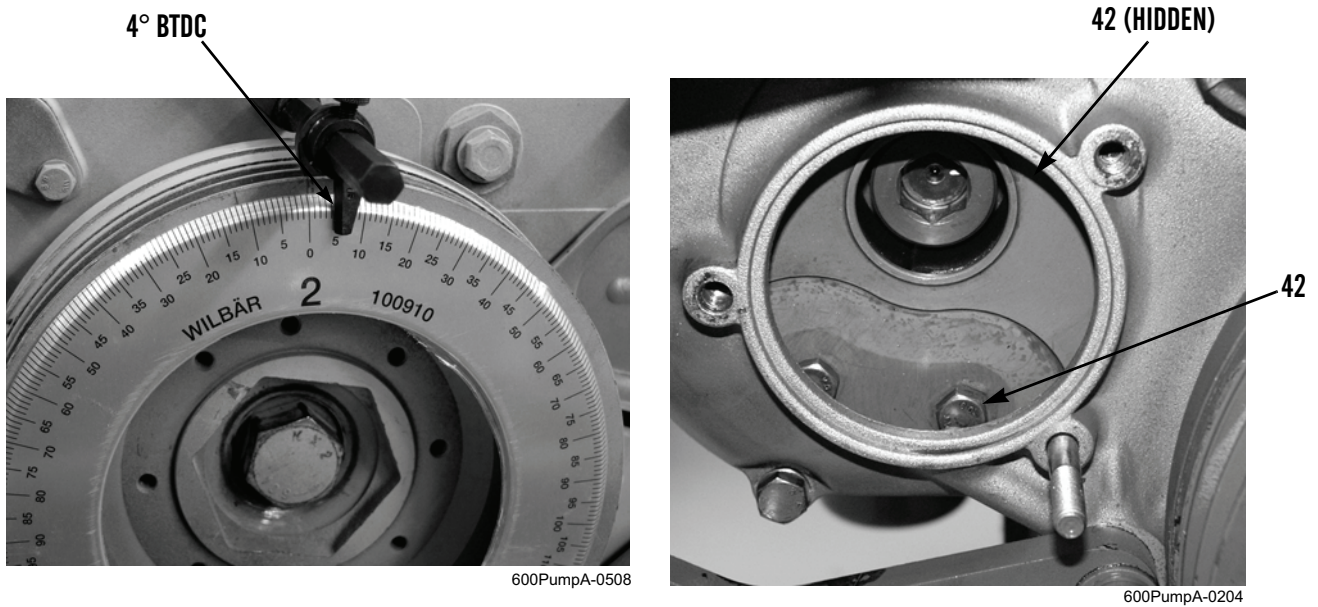

Figure 25. Tensioning Nut and Timing Device Bolts.
21. With positioning pin (Figure 24, Item 39) fully seated in recess of fuel injection pump (Figure 24, Item 1), check that engine pointer is at 4° BTDC (Figure 25).
- b. If engine is at 4° BTDC, fuel injection pump (Figure 24, Item 1) is properly timed. Remove positioning pin (Figure 24, Item 39), rotate engine crankshaft 360 degrees clockwise (right) and tighten two upper timing device bolts (Figure 25, Item 42).